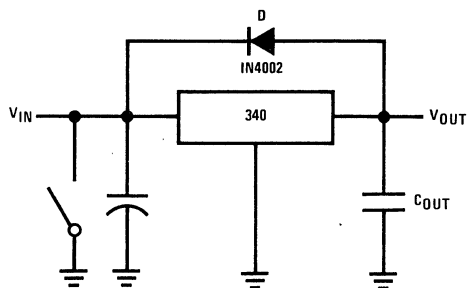

FIGURE 1. Input Short
**Shorting the Regulator Input:** When using large capacitors at the output of these regulators, a protection diode connected input to output (*Figure 1*) may be required if the input is shorted to ground. Without the protection diode, an input short will cause the input to rapidly approach ground potential, while the output remains near the initial  $V_{OUT}$  because of the stored charge in the large output capacitor. The capacitor will then discharge through a large internal input to output diode and parasitic transistors. If the energy released by the capacitor is large enough, this diode, low current metal and the regulator will be destroyed. The fast diode in *Figure 1* will shunt most of the capacitor's discharge current around the regulator. Generally no protection diode is required for values of output capacitance  $\leq 10\mu F$ .